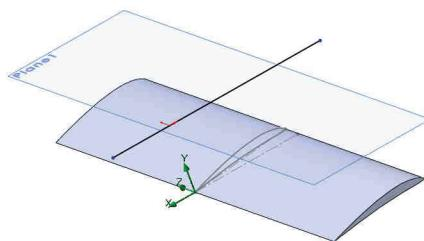

Fig. 16.21
- Prin comanda **Line** se va trasa linia din fig. 16.21.
- By **Line** command the line from fig. 16.21 will be create.